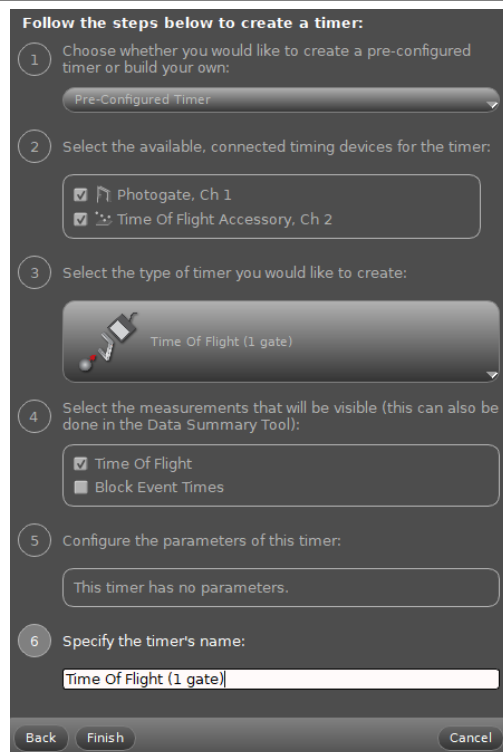

Figure 8. The proper timer configuration for performing experiments with the Discover Free Fall System in Capstone.
6. Select **Timer Setup** from the **Tools** palette, then select **Pre-Configured Timer** and click **Next**. (See Figure 8 for this and the following few steps.)